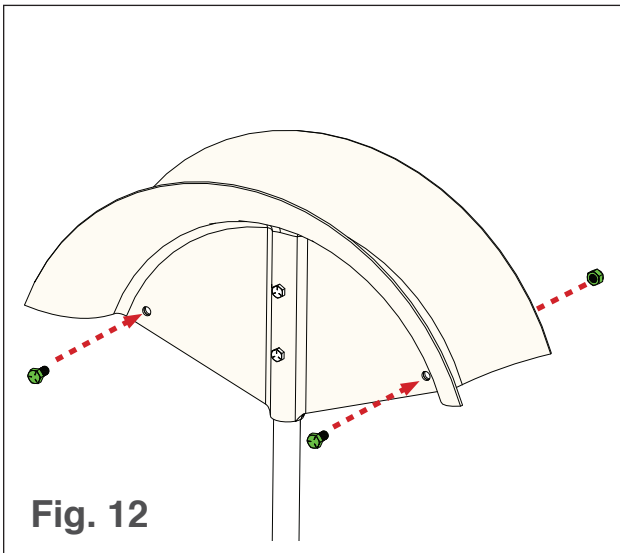

Fig. 12
2. Place the two remaining  $\frac{5}{16}$ "-18 x  $\frac{5}{8}$ " hex head bolts through the two outer holes, and secure with the two remaining nuts (see Fig. 12).